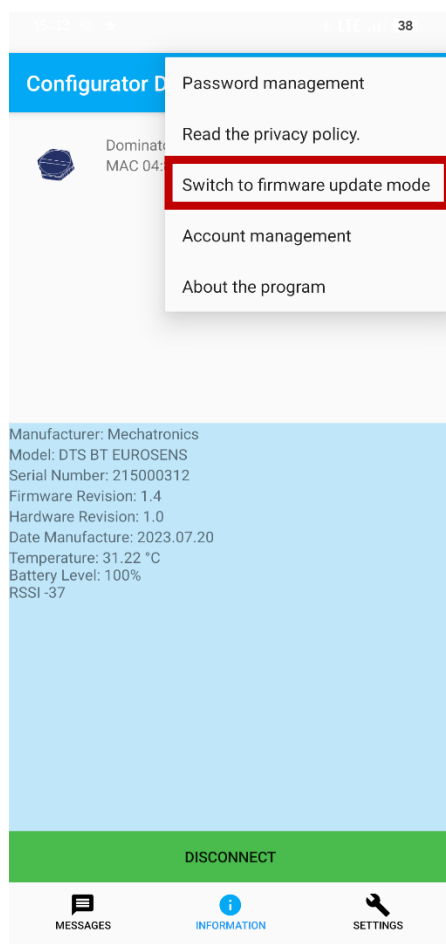

Fig. 5.6.
- open the **“Information”** tab in the Configurator DTS BT application and press the **“Switch to firmware update mode”** button (Fig. 5.6);